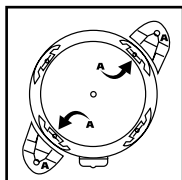

FIGURE 3
3. With tank drain facing you, take caster feet marked with the letter **A**, **FIGURE 3**, and place in the slots on left front and right rear of tank also marked with the letter **A**.